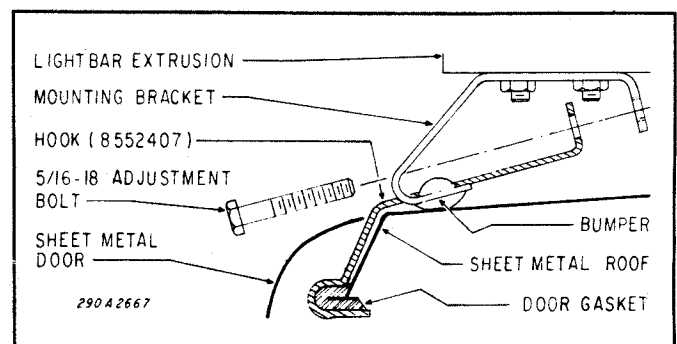

Figure 1.
2. See figure 1. Insert the hook into the opening in the center of the mounting bracket and position it over the vehicle door gasket.